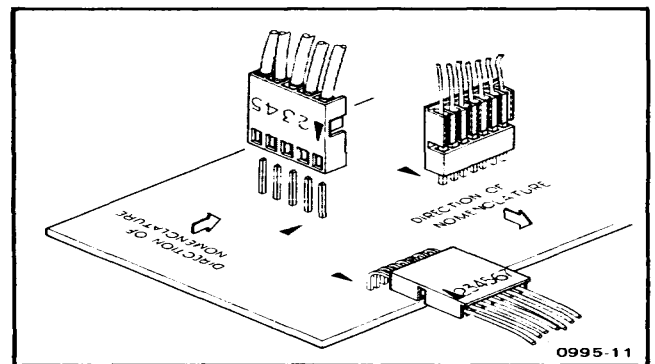

Fig. 5-1. Multipin (harmonica) circuit board connectors.
**Multiple Terminal (Harmonica) Connector Holders:** The multi-connector holder is keyed with a triangle; one on the holder and one on the circuit board. When a connection is made perpendicular to a circuit board surface, the orientation of the triangle and the slot numbers on the connector holder are determined by the direction of the nomenclature marking (see Fig 5-1). All harmonica connectors are identified on the schematic and board with the prefix "P".